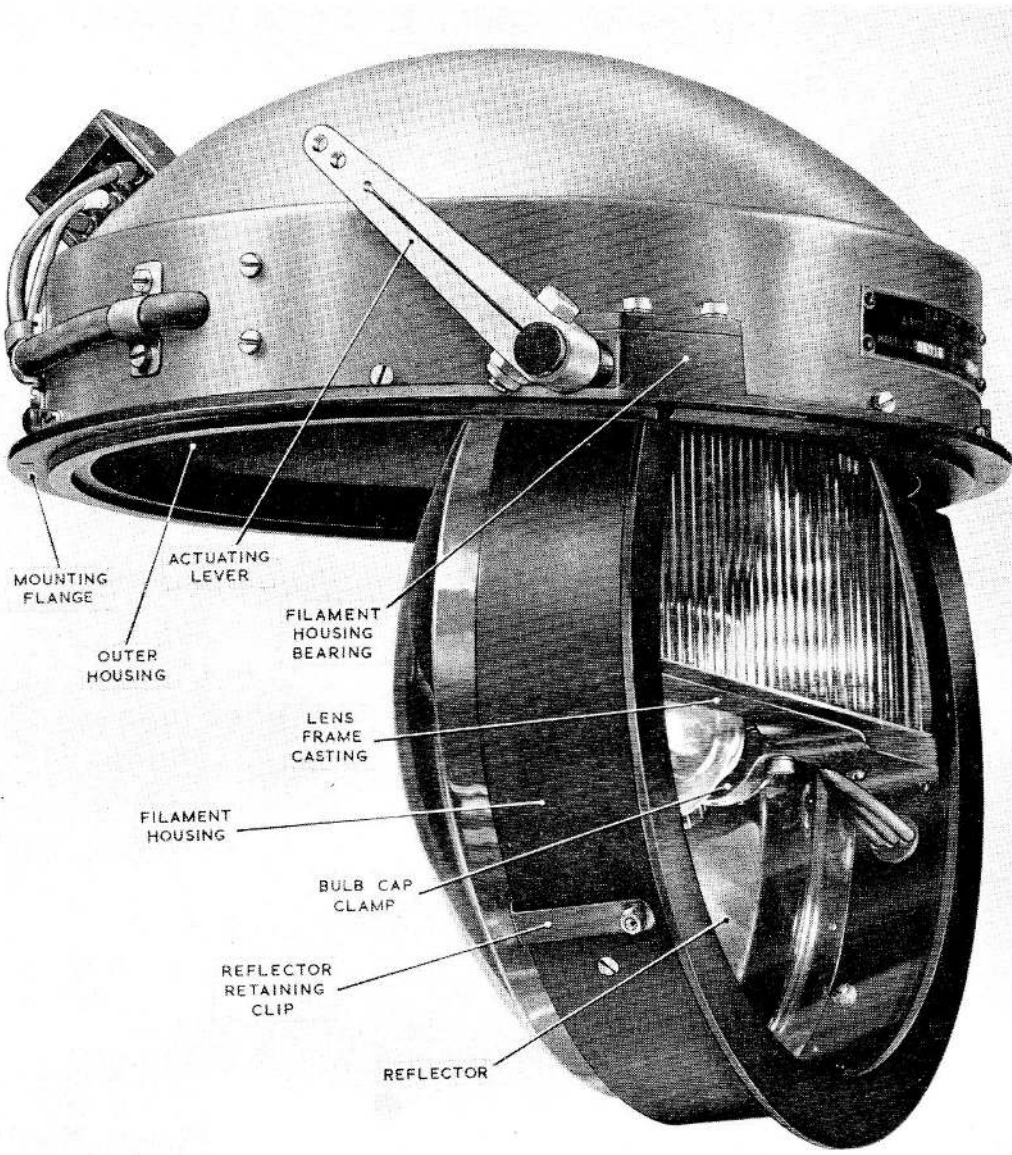

Fig. 1. Harley Landing Lamp, Type 8KD/1R
1. This lamp is similar to that described in the main chapter (shown in fig. 1) but has no operating unit attached. A remote power unit, either electrical or hydraulic, or a Teleflex control, may be connected to the